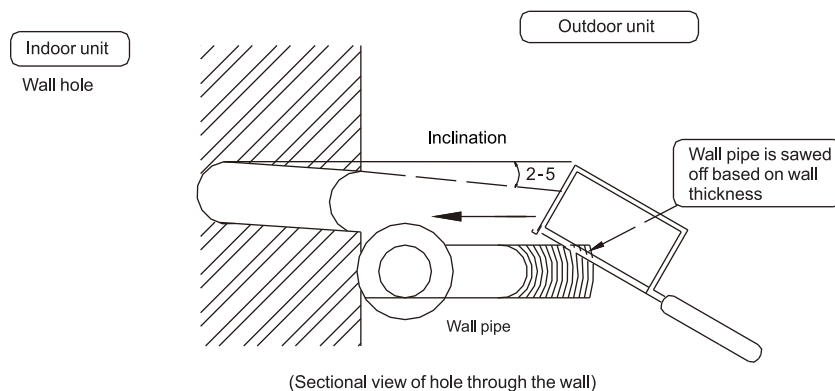

Figure 16
- 2) Through the wall: upon the wall penetration, the pipeline for indoor and outdoor unit must be equipped with wall cannula, to avoid damage of pipes and wires, as shown in Figure 16: